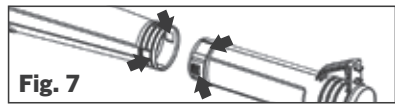

Fig. 7
2. Push the lower tube firmly in to the upper tube, until the tubes “click” into place (Fig. 7).